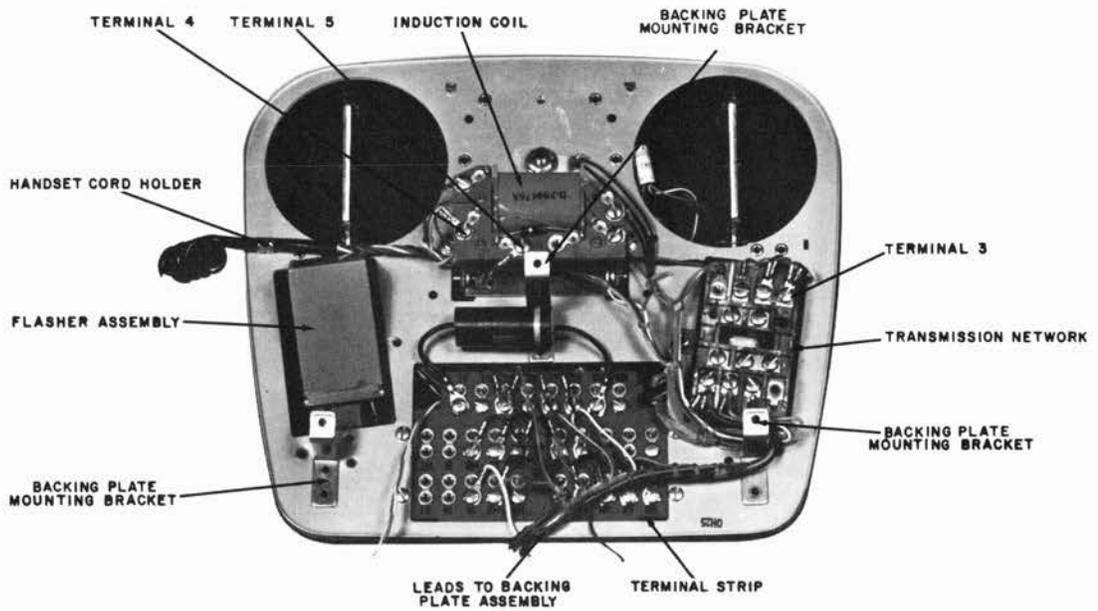

Figure 8. Main Unit Assembly with Upper Housing and Backing Plate Removed.
- (4) Fasten the backing plate to the backing plate mounting brackets (Figure 8), and replace the upper housing.
- (1) Remove the upper housing.
- (2) Disconnect the GRN and BLK handset cord leads from transmission network terminal 3 (Figures 8 and 12).
- (3) Disconnect the YEL lead from induction coil terminal 4, and the RED lead from induction coil terminal 5 (Figures 8 and 12).
- (4) Release the handset cord holder from the Speakerphone mounting plate (Figure 8) and pull out the old cord.
- (5) Connect the new handset cord leads to their proper terminals as follows (Figures 8 and 12).
- (6) Hook the handset cord holder to the Speakerphone mounting plate.
- (7) Replace the upper housing.